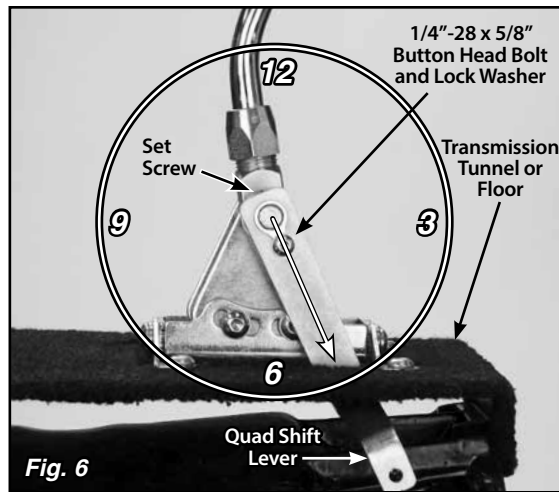

Fig. 6
**Step 9:** Make sure the shifter lever is in the Park position. Temporarily place the quad shift lever in position on the quad lever bushing as shown in Fig. 6. Check for interference with the driver side rear floor mount tab or the vehicle floor. With the shifter lever in Park, you want the quad shift lever to be as close to the 4:30 – 5:00 position as the floor mount tab will allow, without the quad shift lever touching the floor mount tab or floor.
With the quad shift lever in position on the quad lever bushing, install the 1/4"-28 x 5/8" button head bolt and lock washer into the bushing, and tighten with a 5/32" Allen wrench. Fig. 6